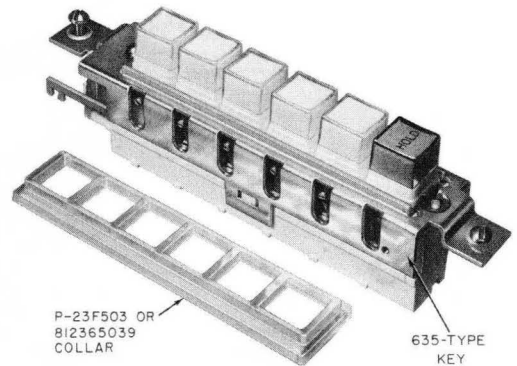

Fig. 9—Current Production 635-Type Key and Collar
- (6) Remove caps and install key designation numbers.
- (7) Replace caps.
(8) Install proper collar furnished with 635-type keys. Early production keys have rectangular buttons, and current production keys have square buttons (Fig. 9) making the collars incompatible.